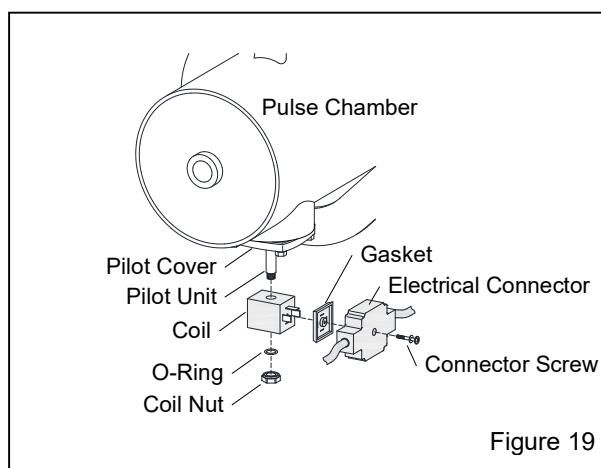

Figure 19
Figures 19 and 20**
Diaphragm pulse valves and solenoid coil are attached to the bottom of the pulse chamber, as shown in Figure 19. **Note: MB-750 pulse valve is attached to the top of the pulse chamber.**
9.5.2 Remove the coil nut and slide the coil off the pilot unit, as shown in Figure 19. **NOTE: The coil nut O-ring is loose on the nut; do not misplace it when removing the nut.**